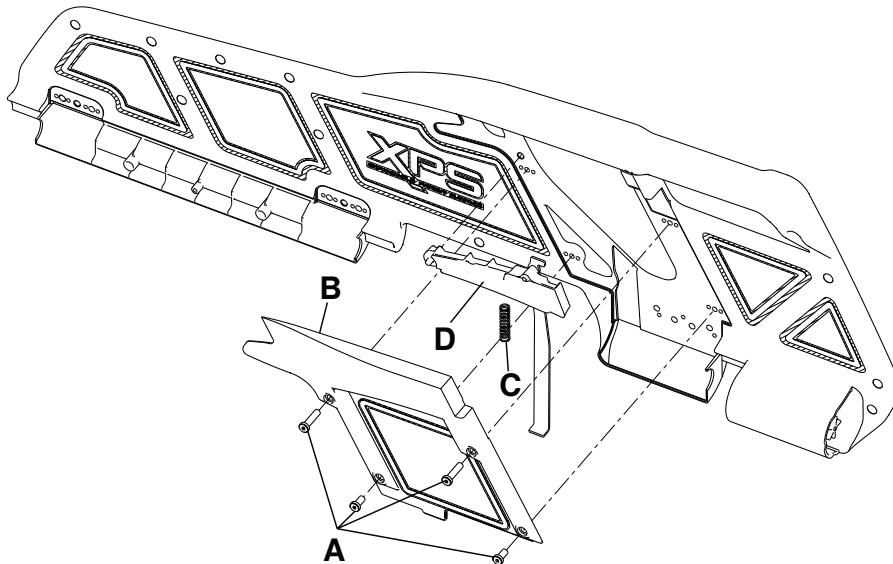

Figure 18 – Release/spring handle assembly replacement (XPS)
3. Using a 3/32" hex wrench, remove the four screws (A) that secure the release cover (B) to the overmold assembly (Figure 18). Remove and save the release cover. Save the screws.
4. Using a small slotted screwdriver, pry the release handle return spring (C) up (Figure 18). Remove and save the return spring.
5. Grasp the release handle assembly (D) and lift the spring side to remove from the cover (Figure 18).